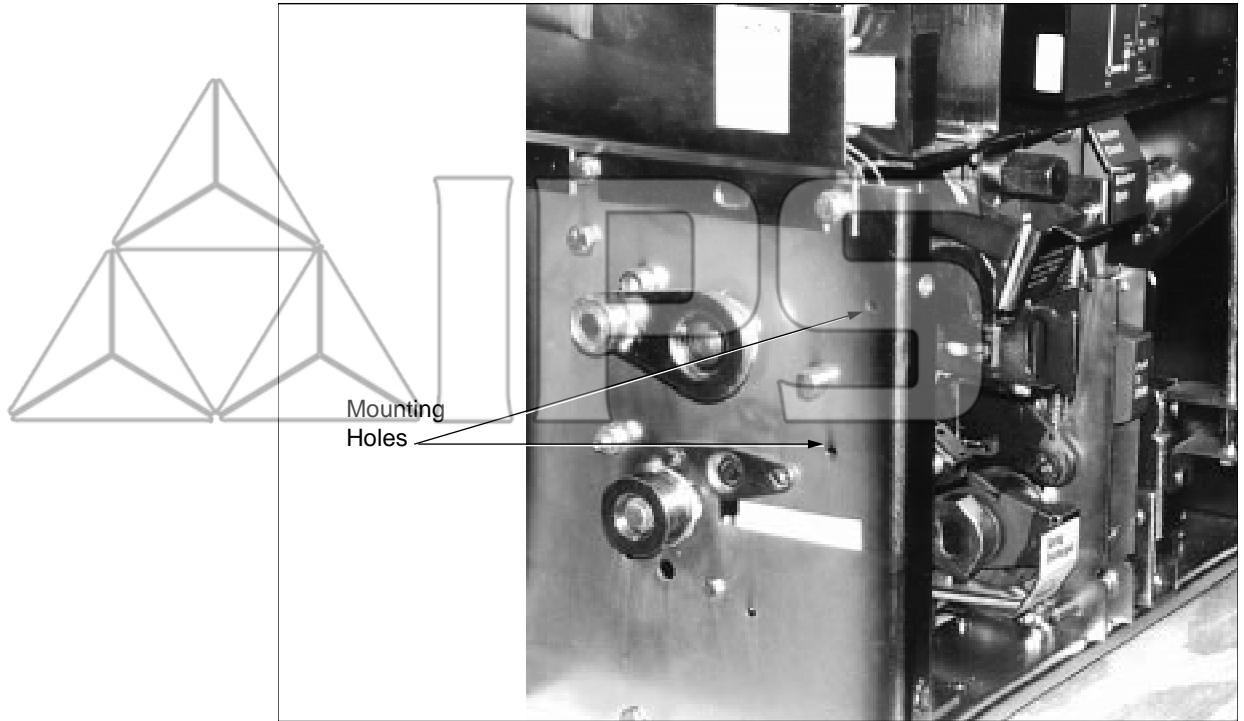

Figure 2: Location of mounting holes
2. Locate the mounting holes in the left side circuit breaker frame. See Figure 2.